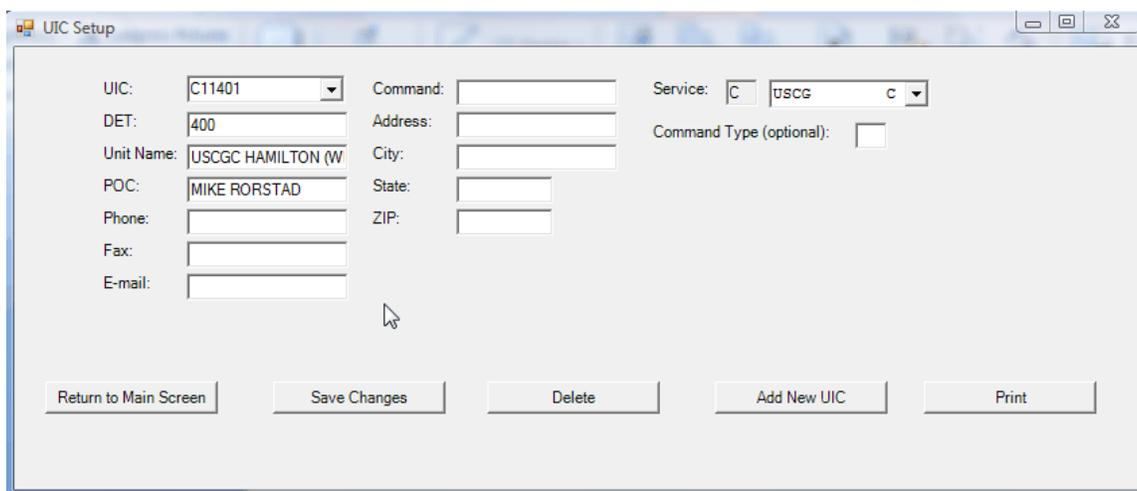

Figure 32. UIC Setup
(2) Press Add/Modify UIC button (Figure 32).